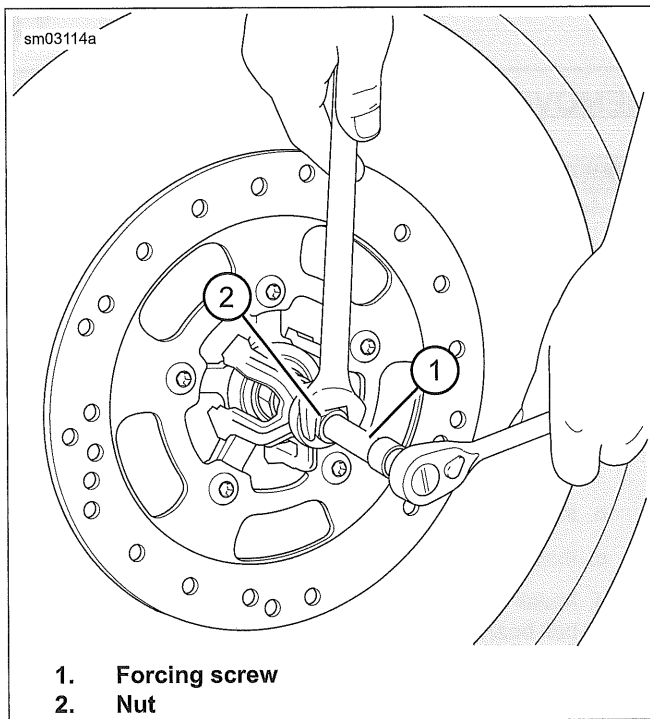

Figure 3-23. Removing Bearing
- b. See Figure 3-23. Hold end of forcing screw (1) and turn nut (2) to remove bearing from wheel.